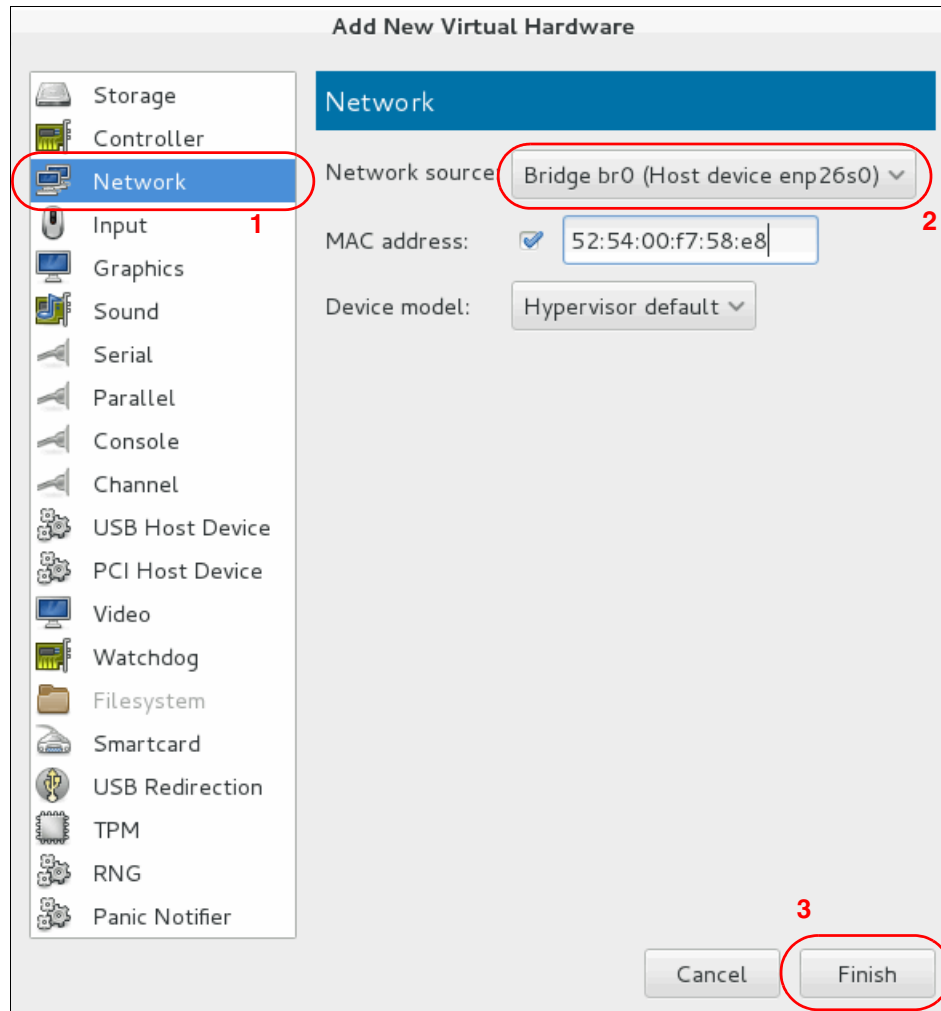

Figure 3-29 Add a second NIC
9. Add a second NIC to the VM, as shown in Figure 3-29. Select **Network** in the left pane and select the open network bridge (br0). Click **Finish**.